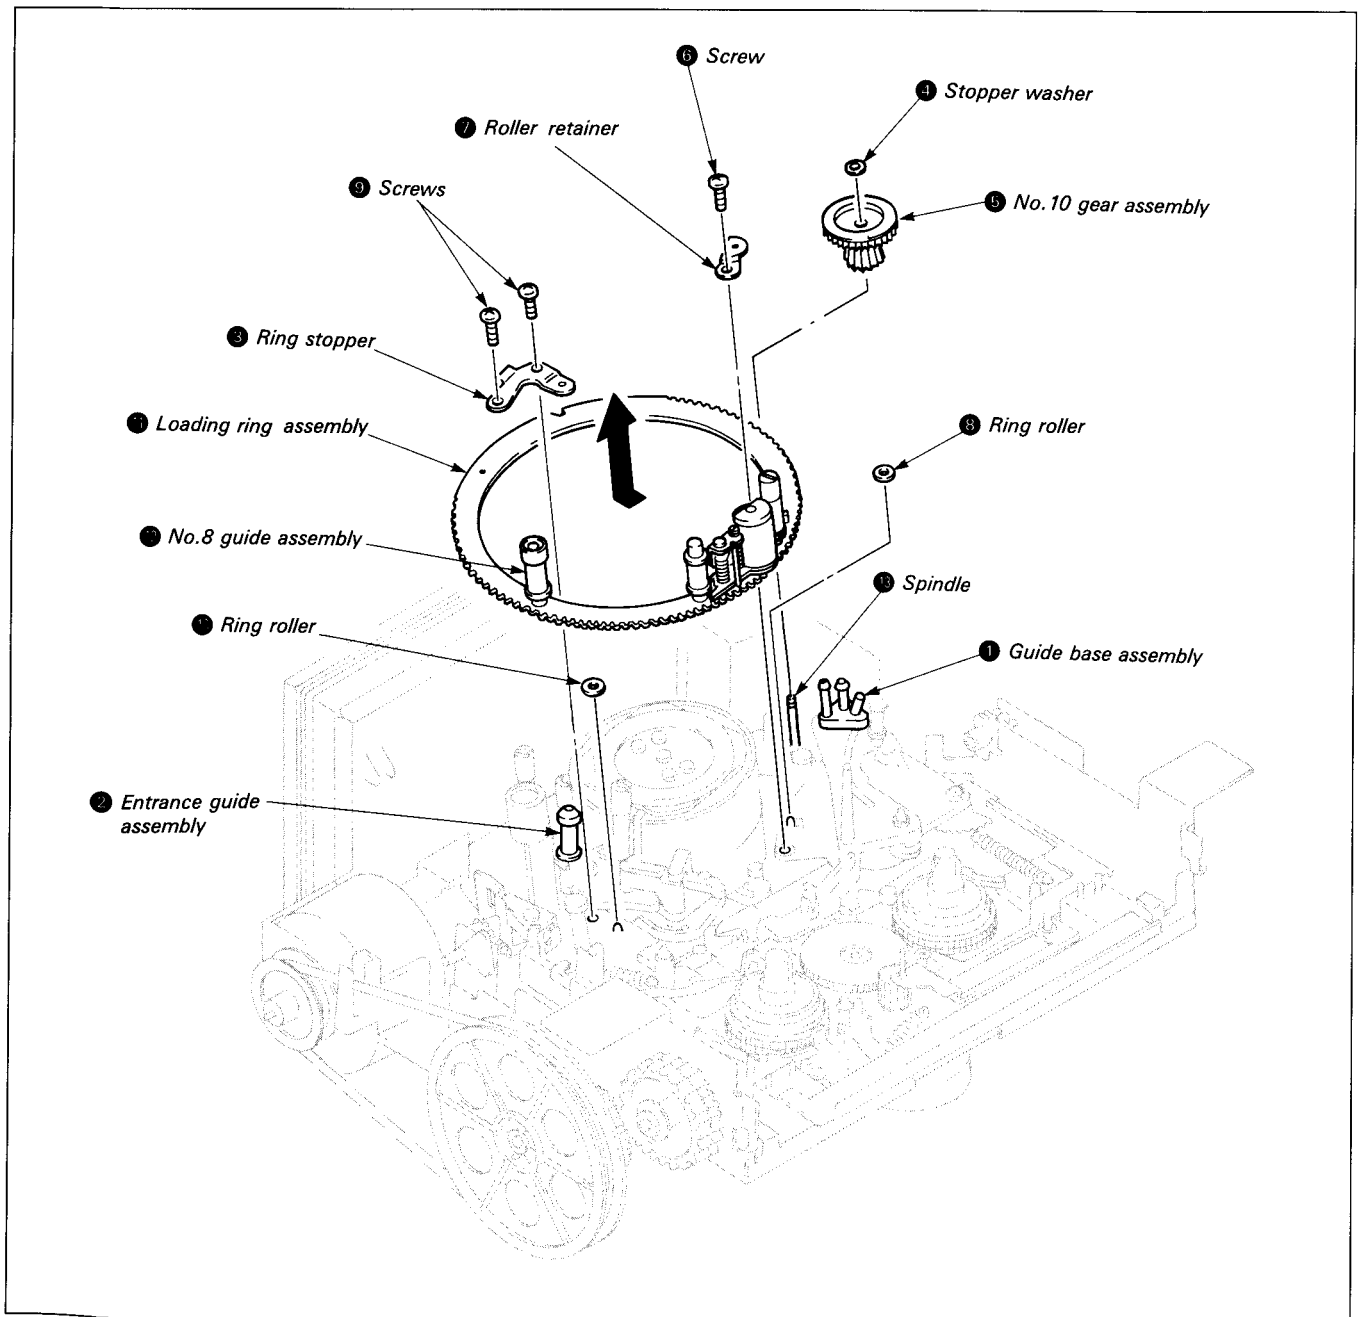
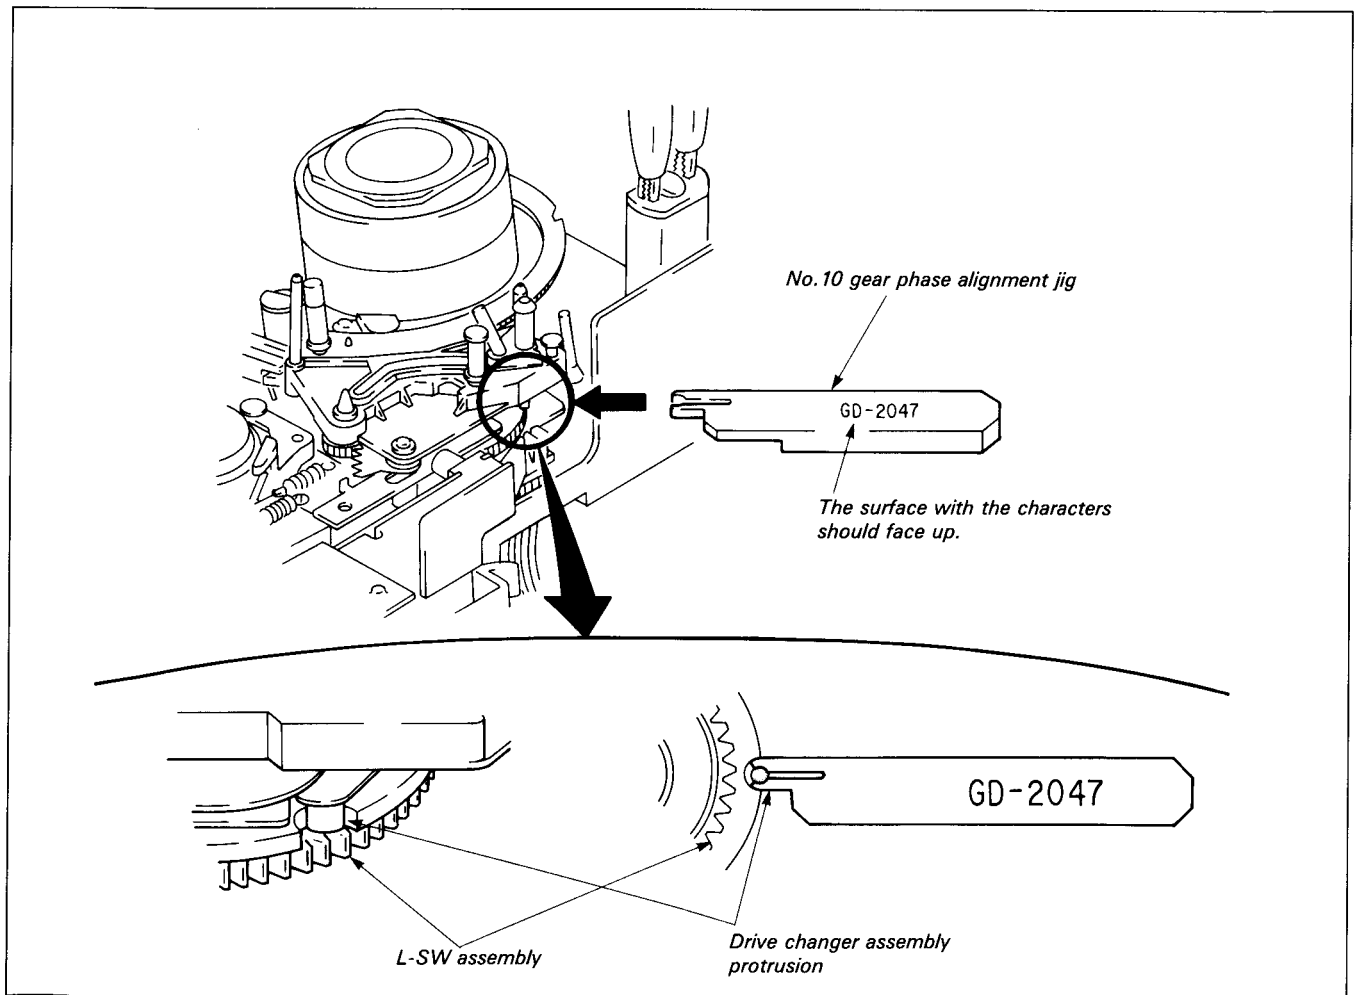
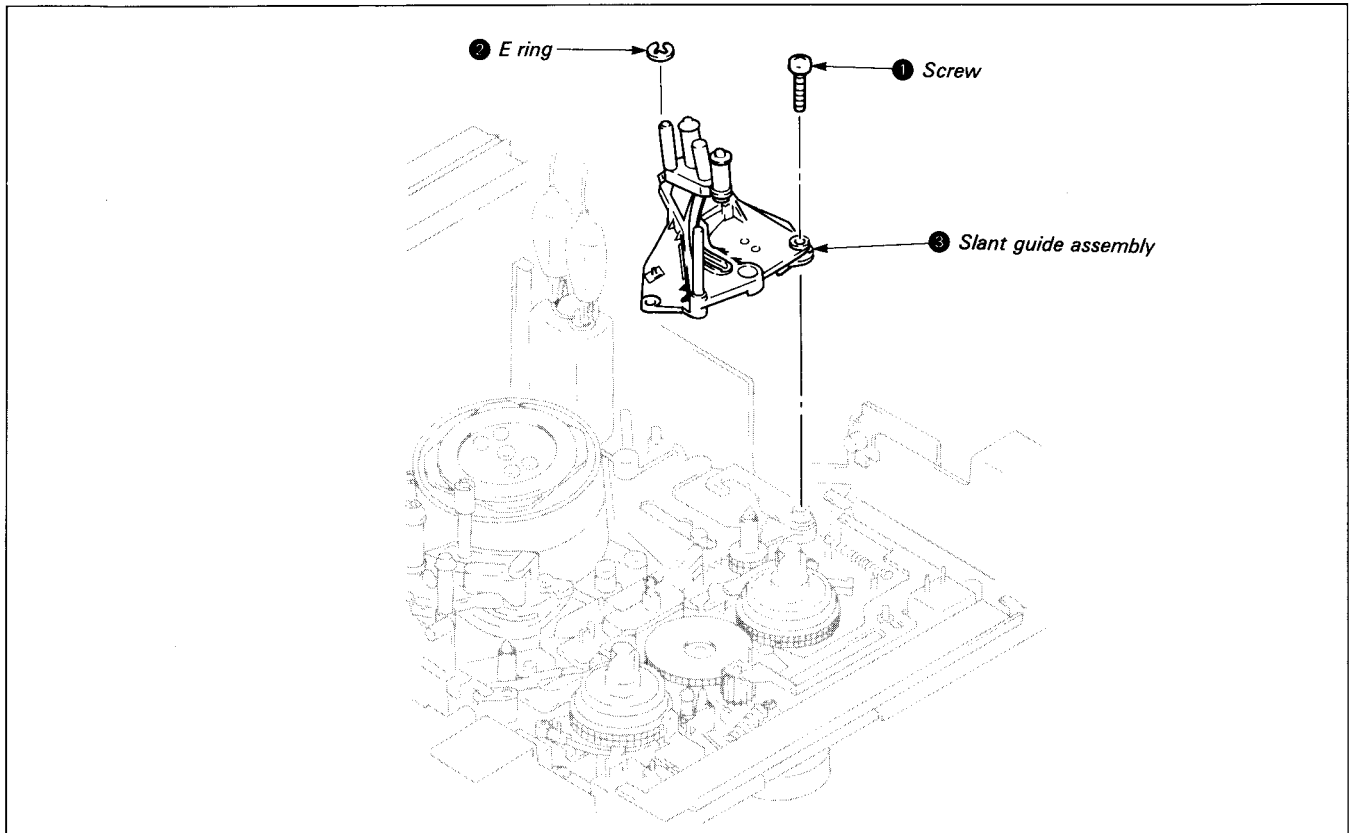

Fig. 7-12.
Fig. 7-13.
Fig. 7-26.
### 7-3-7. Loading Ring Assembly (See Fig. 7-12, 13.)
- 3) Operate the mode selector, and move the guide base assembly ① until just before lock, and the entrance guide assembly ② until just before lock where the ring stopper ③ screw is visible. (Do not move loading ring assembly ⑪.)
- 4) Remove the stopper washer ④ and remove No. 10 gear assembly ⑤.
- 5) Remove screw ⑥ and the roller retainer ⑦ and ring roller ⑧.
- 6) Remove the two screws ⑨ and the ring stopper ③ and ring roller ⑩.
- 7) Remove the loading ring assembly ⑪ as shown by arrow. (See Fig. 7-12.)
**Note:** Be careful that the loading ring assembly ⑪ does not touch the drum when it is removed.
- 1) Mount the loading ring assembly ① so that it is in unthreaded state (pinch roller arm assembly is on the front panel side). (Check that it is in the state in step 3) under Removal.)
- 2) Mount the ring roller ② and ring stopper ③ and tighten with the two screws ④. (No. 8 guide assembly ⑫ should be closer to the front panel than the ring stopper ③.)
- 3) Mount the ring roller ⑧ and roller retainer ⑦ and tighten with screw ⑥. (Check that the loading ring assembly matches the three ring spacers.)
- 4) Place a half drop of oil on the spindle ⑬. (See Fig. 7-12.)
- 5) Check that the protrusions on the drive changer assembly are in the indentations of the L-SW assembly and insert the No. 10 gear phase jig (Ref. No. J-9). (See Fig. 7-13.)
- 6) Mount No. 10 gear assembly ⑤ and stopper washer ④ while pushing the No. 8 guide assembly ⑫ against the ring stopper ③.
- 8) Set to **LOADING TOP** mode. (See Fig. 7-12.)
- 1) Remove the loading ring assembly as described in 7-3-7., 1. Removal. (See Fig. 7-12.)
- 6) Mount the loading ring assembly according to 7-3-7., 2. Mounting. (See Fig. 7-12, 7-13)
**7-3-9. Slant Guide Assembly (See Fig. 7-26 ~ 28.)**
- 1) Remove the loading ring assembly according to 7-3-7., 1. Removal. (See Fig. 7-12.)
- 2) Remove screw ① and E ring ②.
- 3) Remove the slant guide assembly ③. (See Fig. 7-26.)
- 3) Mount the E ring ② and tighten screw ①. (See Fig. 7-26.)
- 5) Mount the loading ring assembly according to 7-3-7., 2. Mounting (See Fig. 7-12, 7-13.)